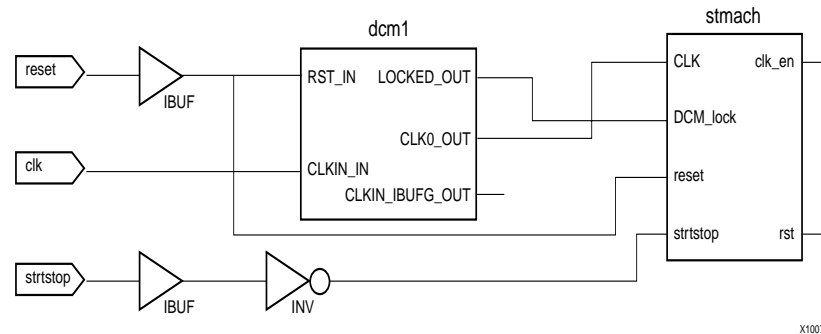

Figure 3-38: Labeled Nets with I/O Markers
3. Place the name on the leftmost end of the net as illustrated in Figure 3-38.